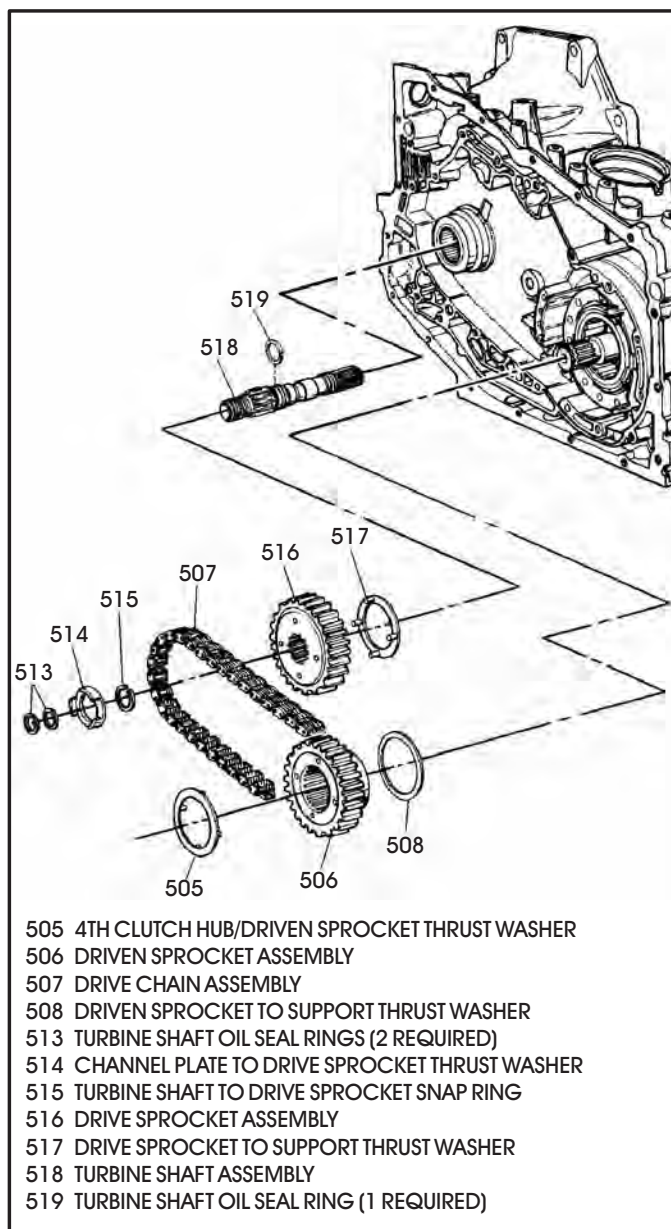

Figure 133
1. Install thrust washer on front side of the drive sprocket, as shown in Figure 133, and retain with Trans-Jel®.
2. Install thrust washers on both sides of driven sprocket, as shown in Figure 133, and retain with Trans-Jel®.